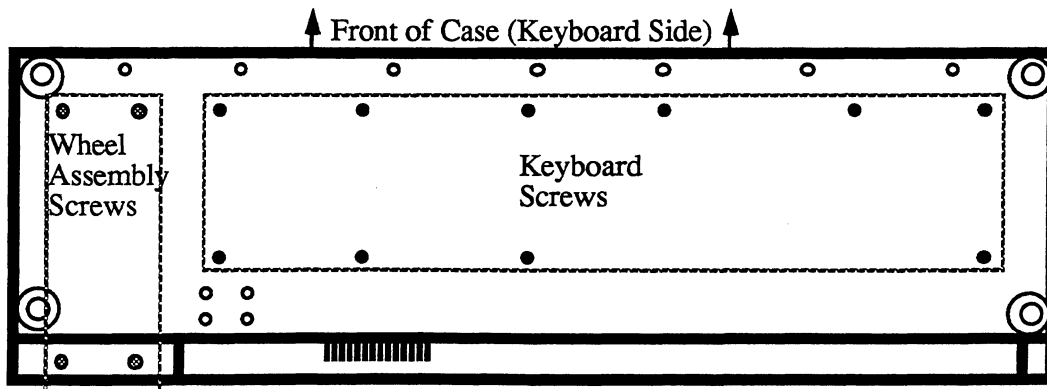

Figure 15 – Bottom of Case
2. Using a 2.5mm hex wrench, remove the four (4) screws that fasten the control panel and raise the panel. NOTE: These are machine screws. See "Brass Inserts" p. 3.
3. Place the unit upside down on a soft surface and remove the ten (10) screws that attach the keyboard to the case. See Figure 15 for location of screws.
3. Place the unit upside down on a soft surface and remove the four (4) screws that attach the wheel assembly to the case. See Figure 15 for location of screws.
3. Turn the unit over, top down, and remove the four (4) screws that attach the wheel assembly to the case. See Figure 15 for location of screws. Return the unit to an upright position and raise the control panel. Carefully lift the wheel assembly out of the case.
5. Remove the four (4) screws and star washers that attach the disk drive to the wheel assembly.
6. Carefully slide the disk drive out of the wheel assembly. Remove the two (2) screws and star washers that attach the metal plate to the bottom of the disk drive.